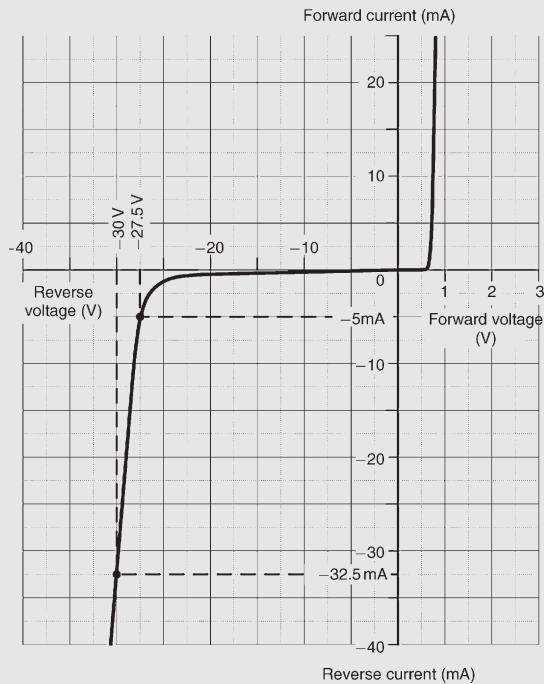

Figure 11.16
**Problem 7.** The characteristic of a Zener diode is shown in Fig. 11.16. Use the characteristic to determine (a) the current flowing in the diode when a reverse voltage of 30 V is applied, (b) the voltage dropped across the diode when a reverse current of 5 mA is flowing in it, (c) the voltage rating for the Zener diode and (d) the power dissipated in the